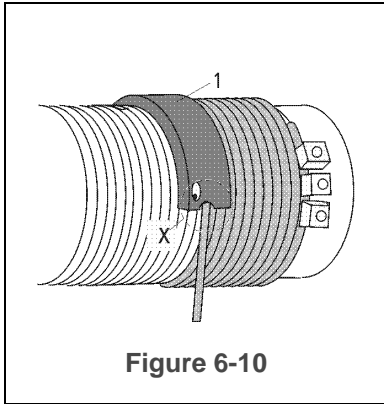

Figure 6-10
- Place the half-ring (1) with the short window section onto the rope drum next to the last rope winding so that the rope exits from the region of the window (x) (see Figure 6-10).